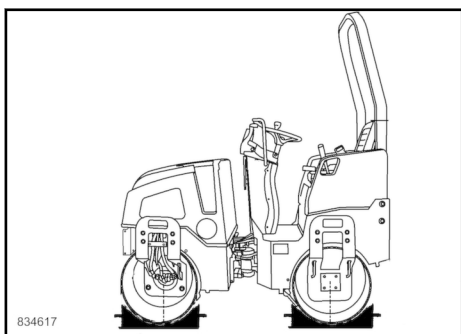

Fig. 120
1. Block the drums with suitable chocks ↪ Fig. 120.